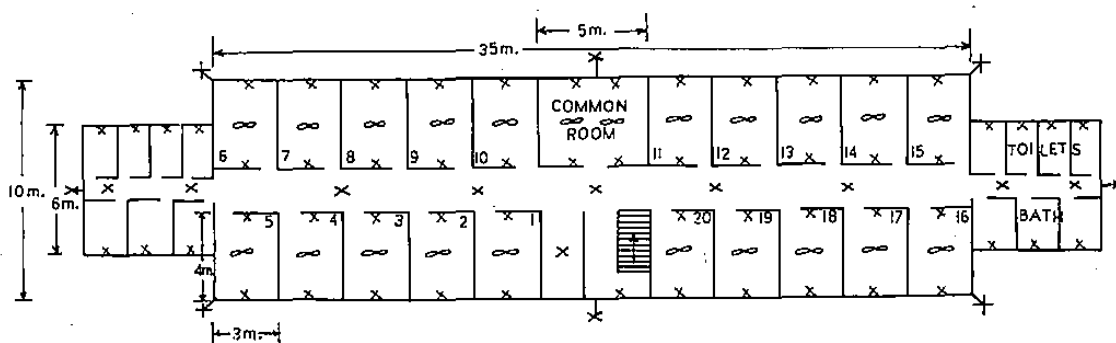

Figure 2.
(2) PVC
(3) 140
(4) 0.3
- b) A ground floor plan of a three storey hostel building is shown in Figure 2. The number of lights and fans are also indicated on it. First and second floor plan is similar to ground floor. In each room 6A socket outlet has to be provided. Calculate the total wattage and decide the number of sub-circuits. Draw the single line diagram showing arrangement of switch boards and distribution boards from energy meter for the complete hostel building. Assume Wattage of lamp, ceiling fan and 6 A socket outlet to be 20 watt, 65 watt and 100 watt respectively.